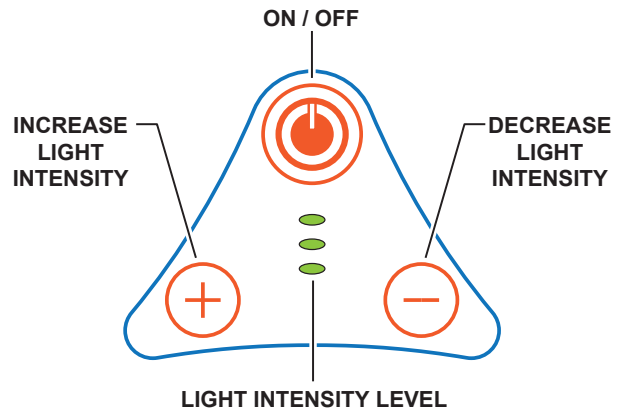

Figure 2. Control Pad
2. Press and hold the ON/OFF button on the control pad to turn the light fixture on (Figure 2).